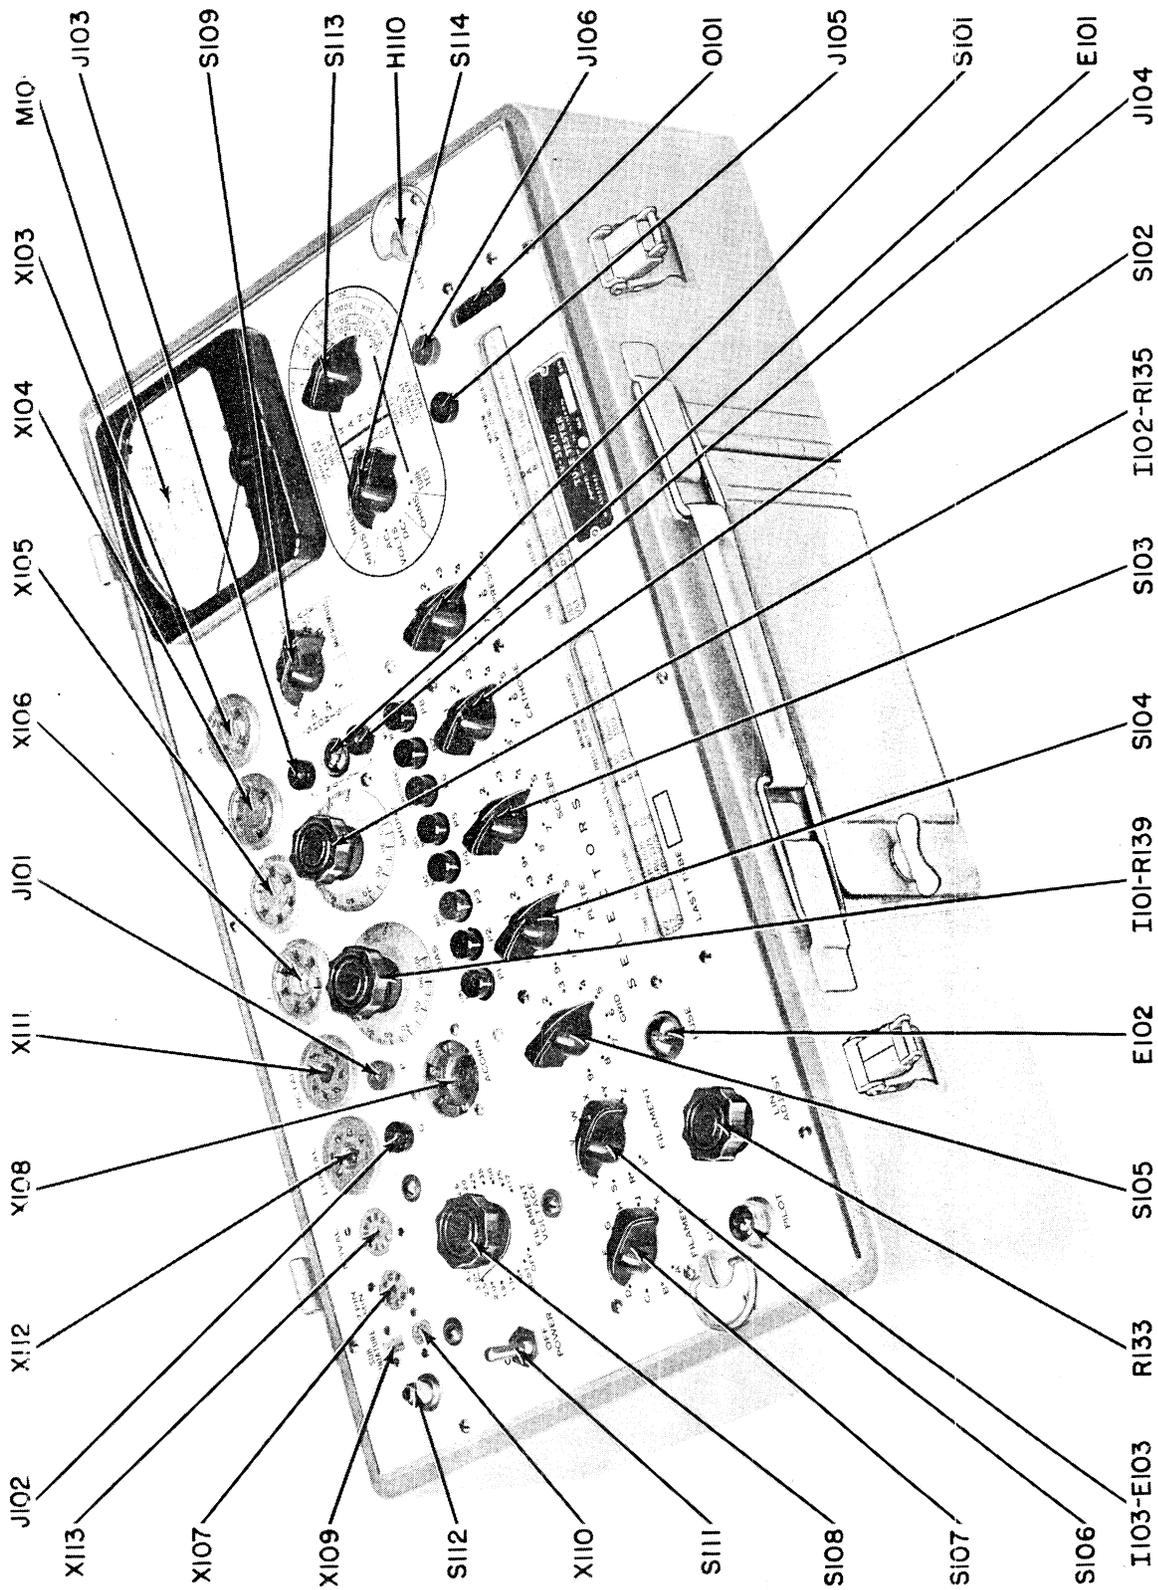

Figure 4-1. Front View of Tube Tester TV-3B/U Showing Controls by Symbol Designation
a. Refer to the photograph of the Tube Tester TV-3B/U, Figure 4-1, or preferably to the tester itself.
(1) The tube sockets are grouped along the top edge and in the upper left hand section of the panel as follows: Along the top edge reading from left to right are test sockets for SUBMINIATURE tubes, 7 PIN MINIATURE tubes, 9 pin NOVAL base miniature tubes, LOKTAL and OCTAL tubes, a combination large and small radius socket for standard 7 pin tubes which also provides a pilot lamp test receptacle and, sockets for standard 6, 5 and 4 pin tubes. An acorn tube socket designed to accommodate all tubes of this type now in use is located at the right of the FILAMENT voltage switch.